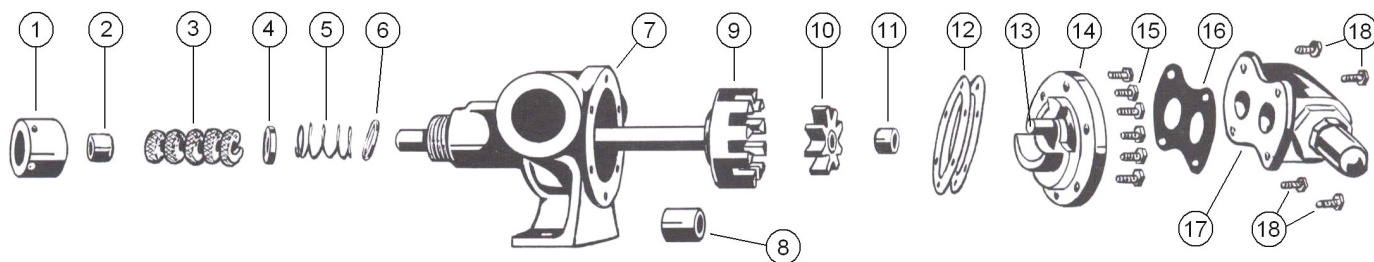

FIGURE 5 – EXPLODED VIEW MODEL G32 PUMP
1. Refer to figures 5 through 12 for name of parts.